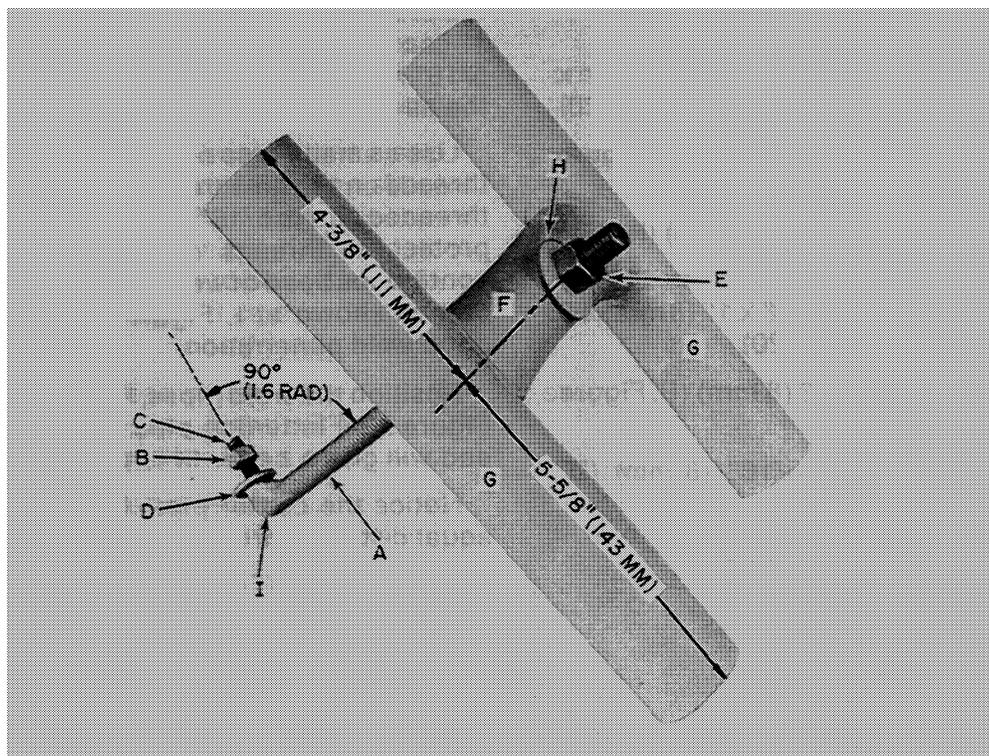
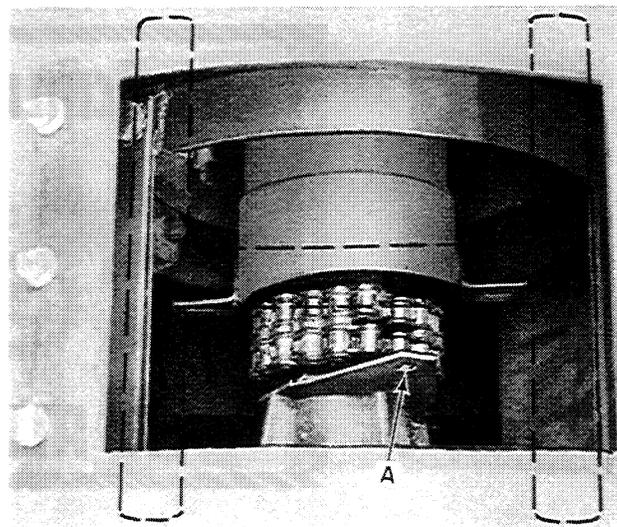

FIGURE 20
FIGURE 21
ROTOR SUPPORT TOOL (Figure 20)
Set the rotor support tool, see Figure 20, on top of the rear rotor cover (the support tool is indicated by broken lines in Figure 21) with the draw bolt, A, Figure 20, extending down into the rotor chamber. Attach the securing bolt, C, Figure 20, to the rotor at A, Figure 21, using one 5/16" (31 mm) hex nut and flat washer. Tighten nut, E, Figure 20, until the rotor begins to be held by the support tool.
- 1 *Steel pipe - 1½" minimum OD, 6" long, 3/32" wall thickness (38 mm, 152 mm, 2 mm) (F, Figure 20)
- 2 *Steel pipe - 1½" minimum OD, 10" long, 3/32" wall thickness (38 mm, 250 mm, 2 mm) (G, Figure 20)
- 1 All-thread rod - ½" x 9" (13 mm x 229 mm) NC Gr. 5 (A, Figure 20)
- 1 Hex nut - ½" (13 mm) (E, Figure 20)
- 1 Flat washer - ½" (13 mm) (H, Figure 20)
- 1 Cap screw - 5/16" x 1" (8 mm x 25 mm) (C, Figure 20)
- 1 Hex nut - 5/16" (8 mm) (B, Figure 20)
- 1 Flat washer - 5/16" (8 mm) (D, Figure 20)
Assemble as shown in Figure 20.
Use a small piece of steel pipe to protect the threads on the all-thread rod. Three 5/16" nuts threaded on the 5/16" cap screw can be used to protect its threads during welding. Weld a continuous bead of weld around the head of the bolt as shown at I, Figure 20. Be sure to get good weld penetration.
Position the weld pipes, F and G, as shown in Figure 20. Flattening pipe, F, slightly on each end will give a better fit to pipes, G.
Drill a 9/16" (14 mm) hole through the center of pipe, F, Figure 20, for the all-thread rod.